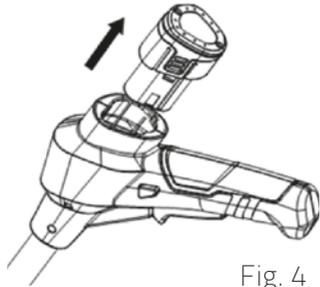
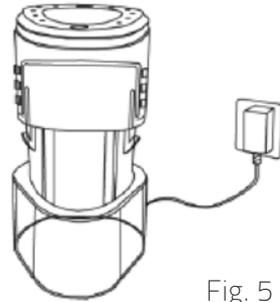

Fig. 4
Fig. 5
### Charge the battery (Fig. 4, Fig. 5)
1. Remove the battery from the device. Press the release buttons on both sides of battery, meanwhile take it out as arrow direction in Fig.4.
2. Insert the battery into the charger as show in Fig.5
3. Connect the charger to the power supply. (Fig.5)